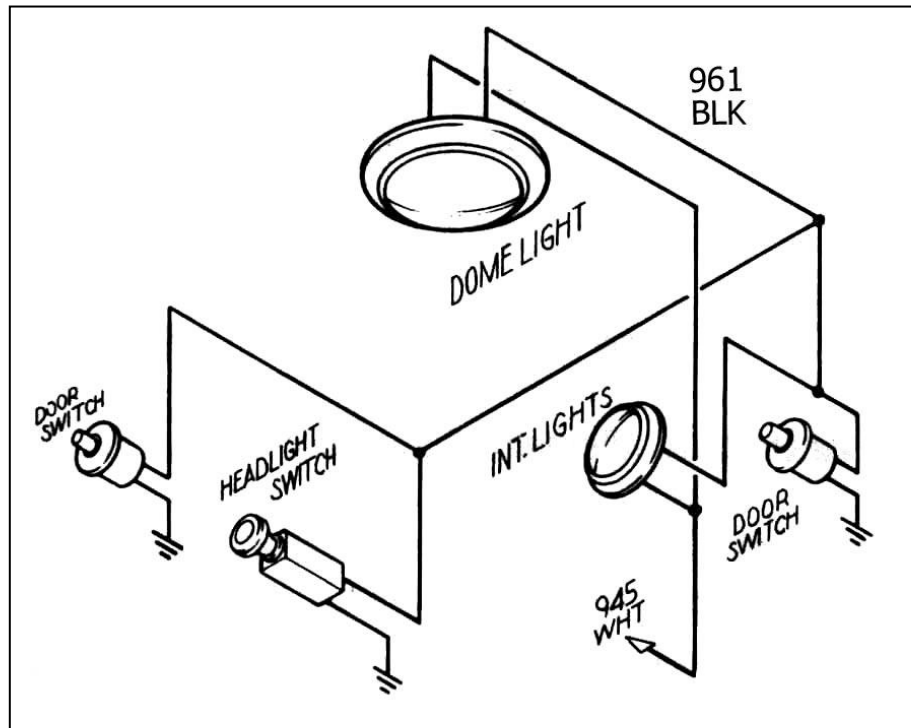

Figure 14.1 Interior Lighting (GM Style Jamb Switch – Painless Part #80170)
- 14.1** Interior Lights are switched through the door switches and the dash-mounted headlight switch, which is usually rotated counter-clockwise to turn on. The dome light return (#961blk), exits the Harness near the fuse panel, and must be connected to the door pin switches to operate. These switches apply ground to the circuit. **YOU WILL NEED TO SUPPLY THESE GROUND WIRES.** 12V is continually present at the light bulbs. See **Figure 14.1**